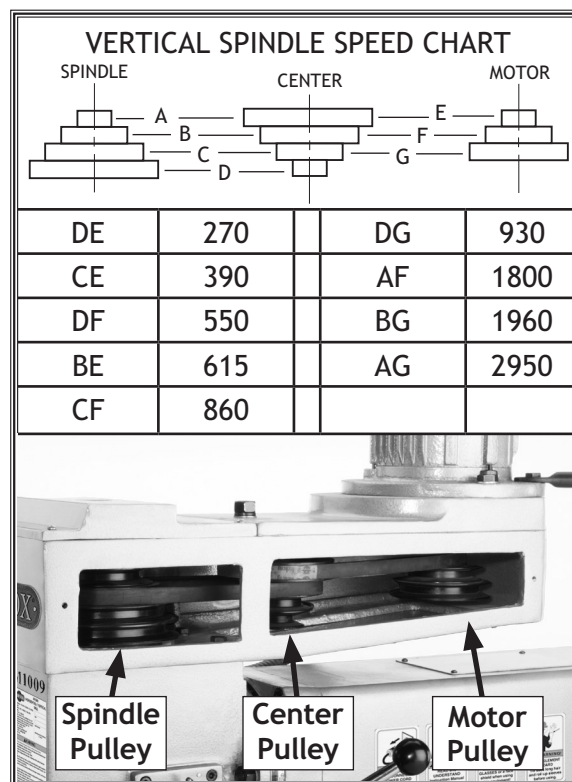
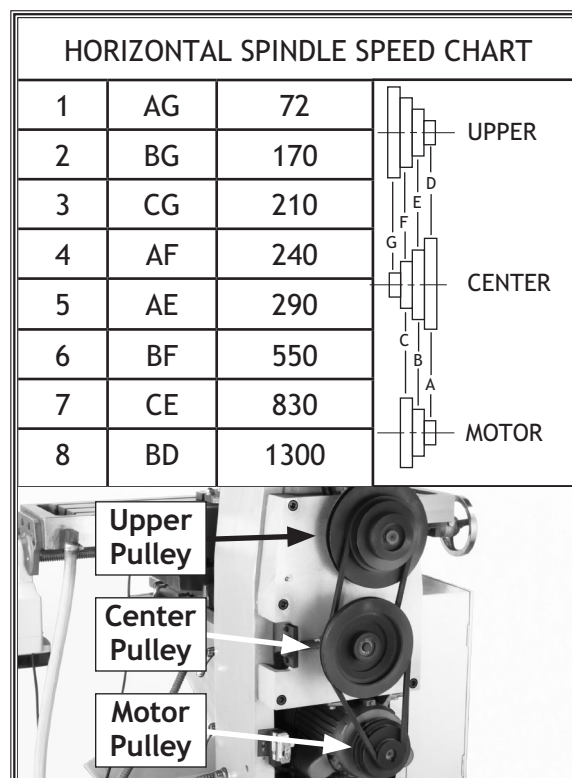

Figure 30. Vertical spindle speed chart and pulley locations.
Figure 31. Horizontal spindle speed chart and pulley locations (Model M1009 only).
1. Examine the **Spindle Speed Chart** near the spindle on your machine to find the closest match to your needed RPM (see **Figure 30** for M1008/M1009 vertical spindle or see **Figure 31** for M1009 horizontal spindle).
4. *For Vertical Spindle (Model M1008/M1009):* Loosen the pulleys shown in **Figure 30**, and move the motor and center pulley to loosen the V-belts.
For Horizontal Spindle (M1009 only): Loosen the pulleys shown in **Figure 31**, and move the center pulley to loosen the V-belts.